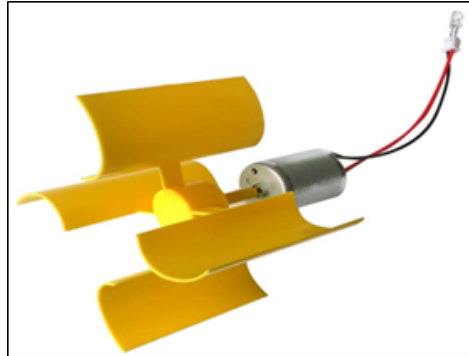

Figure 4.3 : Connection of wind turbine with a DC motor
2. Connect wind turbine model with blade sizing 8 cm to DC motor as shown in Figure 4.3.